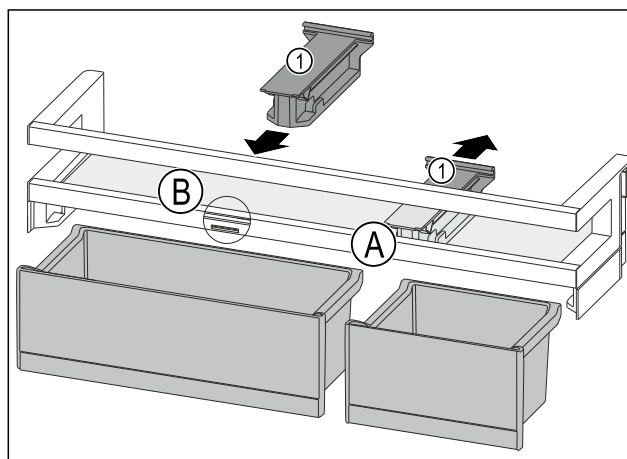

Fig. 88
- ▶ Take off the holding part Fig. 88 (1) in position Fig. 88 (A) backwards.
- ▶ Insert the holding part Fig. 88 (1) in position Fig. 88 (B).